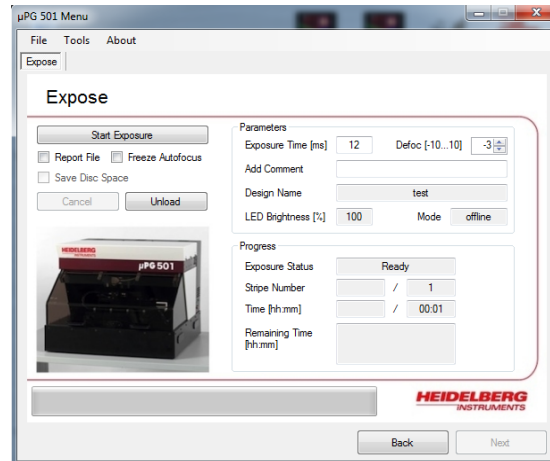

Figure 18: The exposure screen has several default values that should not be changed. Click the “Start Exposure” button.
6. For a simple exposure without alignment, select Standard Exposure (Figure 18). The system writes exposure block by block and the exposure time is how long each block is exposed. If you need more energy, simply increase the exposure time. The brightness stays at 100%. The energy needed for a certain exposure depends on the type and thickness of the photoresist used. For AZ 1518 with ~500 nm thickness, the suggested exposure time is 12 ms. For the suggested Defoc parameter, please check the 'Parameter' file on desktop. Press the 'Start Exposure' button. At this point, the exposure will begin and it may take some time depending on your pattern size.